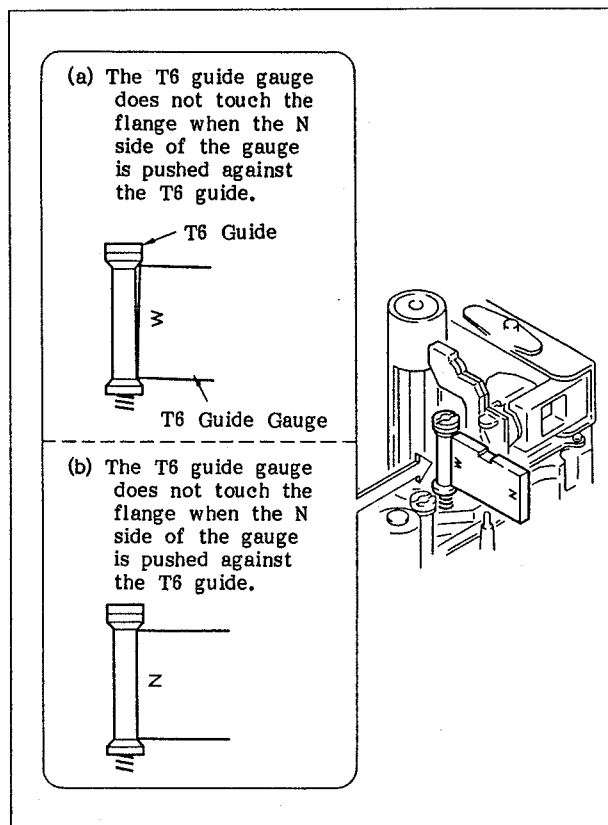

Fig. 6-124 Adjustment of the T6 Guide Roller
2. Push the T6 guide gauge against the T6 guide, as shown in Figure 6-124. Check the clearance between the T6 guide and the T6 guide gauge.